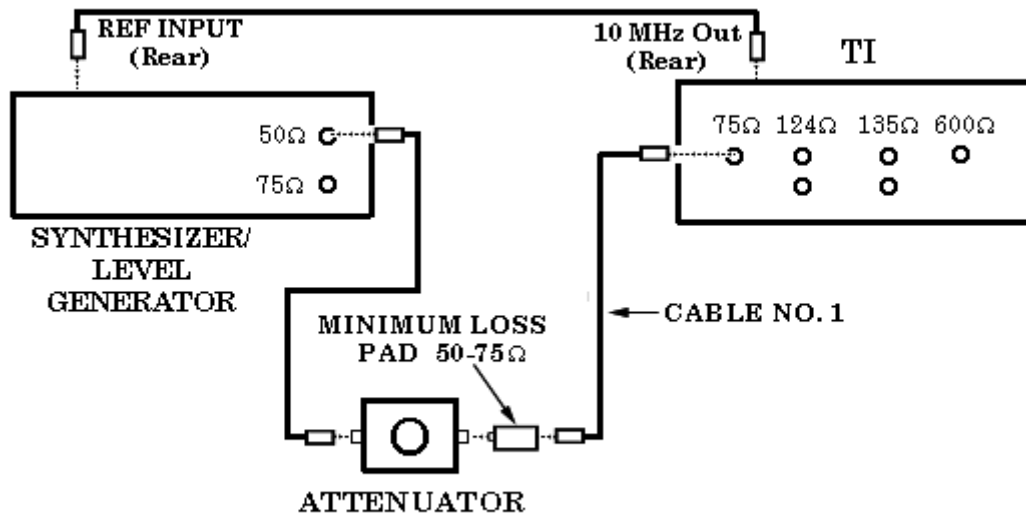

Figure 1. Counter check - equipment setup.
(1) Connect equipment as shown in figure 1.
(2) Press TI **ENTRY [RECALL] [0]** and **TERMINATION [75 Ω]** pushbuttons.
(3) Set attenuator switch to -20 dB.
(4) Set synthesizer/level generator for 1 MHz and amplitude for -72 dBm output.
(5) Set synthesizer/level generator for 0.1 dB steps and press decrement pushbutton until TI indicates -100 dBm.
(6) Press TI **FREQUENCY/ENTRY [COUNTER]** pushbutton. If display does not indicate between 999,999.0 and 1,000,001.0 Hz, perform **b** below.
b. Adjustments. Adjust A22R6 (top front center of TI) for 1,000,000 Hz indication on TI counter (R).